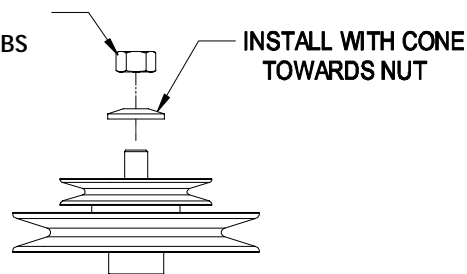

FIGURE 5
- f) Install the double sheave (Item 21) onto the right spindle shaft. Install the spring disk washer and nut removed in Step e). Make sure that the spring disk washer cone is installed towards nut (See Figure 5). Torque the sheave nut to: